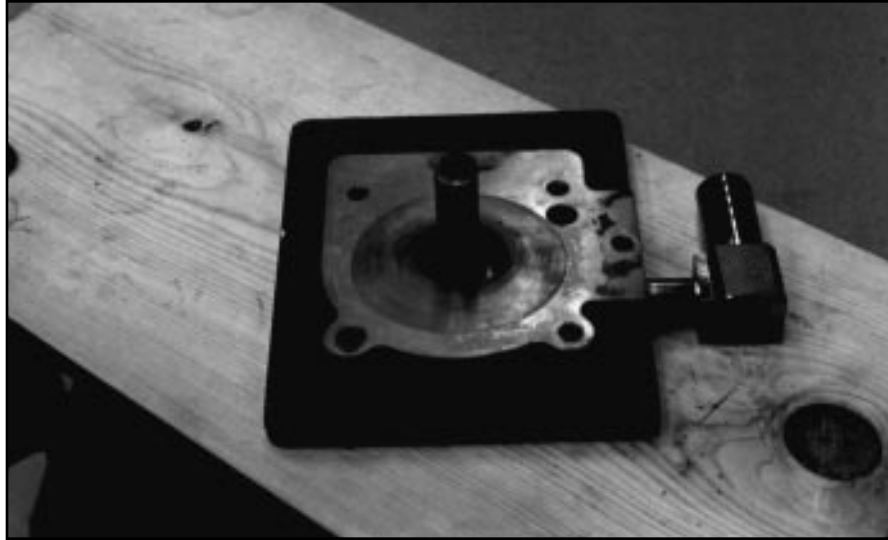

Figure 2 - Center Plate on The Work Fixture
1. Place the center plate (25) on the wooden work fixture. The counter-bore at the shaft hole should be up and half-moon opening of the counter-bore to the hollow center of plate to the far side (see Figure 2). Place the steel washer (26) in the counter-bore and oil with DUOSEAL® pump oil.
2. Insert the pulley end of the shaft (6) into shaft hole so that the retaining ring (7) on the shaft rests on the steel washer. Place rotor key (8) in the keyway on the shaft and slide the smooth-sided intake